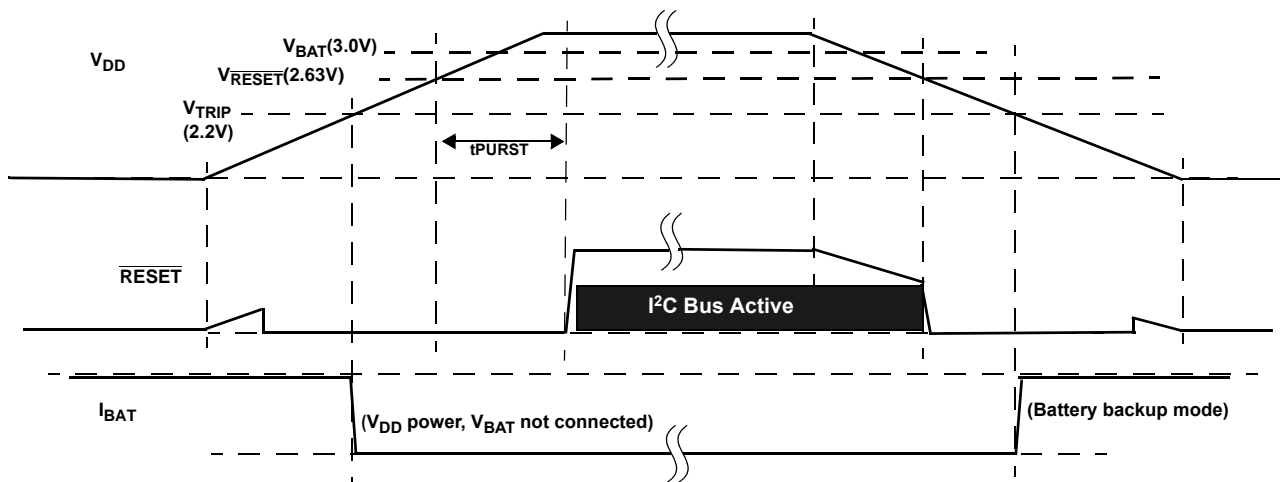

FIGURE 29. EXAMPLE RESET OPERATION IN MODE A OR C
- Mode A - In this mode selection bits indicate a low  $V_{\text{DD}}$  switchover combined with I2C operation in battery backup mode. In actuality the  $V_{\text{DD}}$  will go below  $V_{\text{RESET}}$  before switching to battery backup, which will disable I2C ANYTIME the device goes into battery backup mode. Regardless of the battery voltage, the I2C will work down to the  $V_{\text{RESET}}$  voltage. (See Figure 29)
- Mode C - In this mode the selection bits indicate a low VDD switchover combined with no communications in battery backup. Operation is actually identical to Mode A with I2C communications down to VDD = VRESET, then no communications. (see Figure 29)